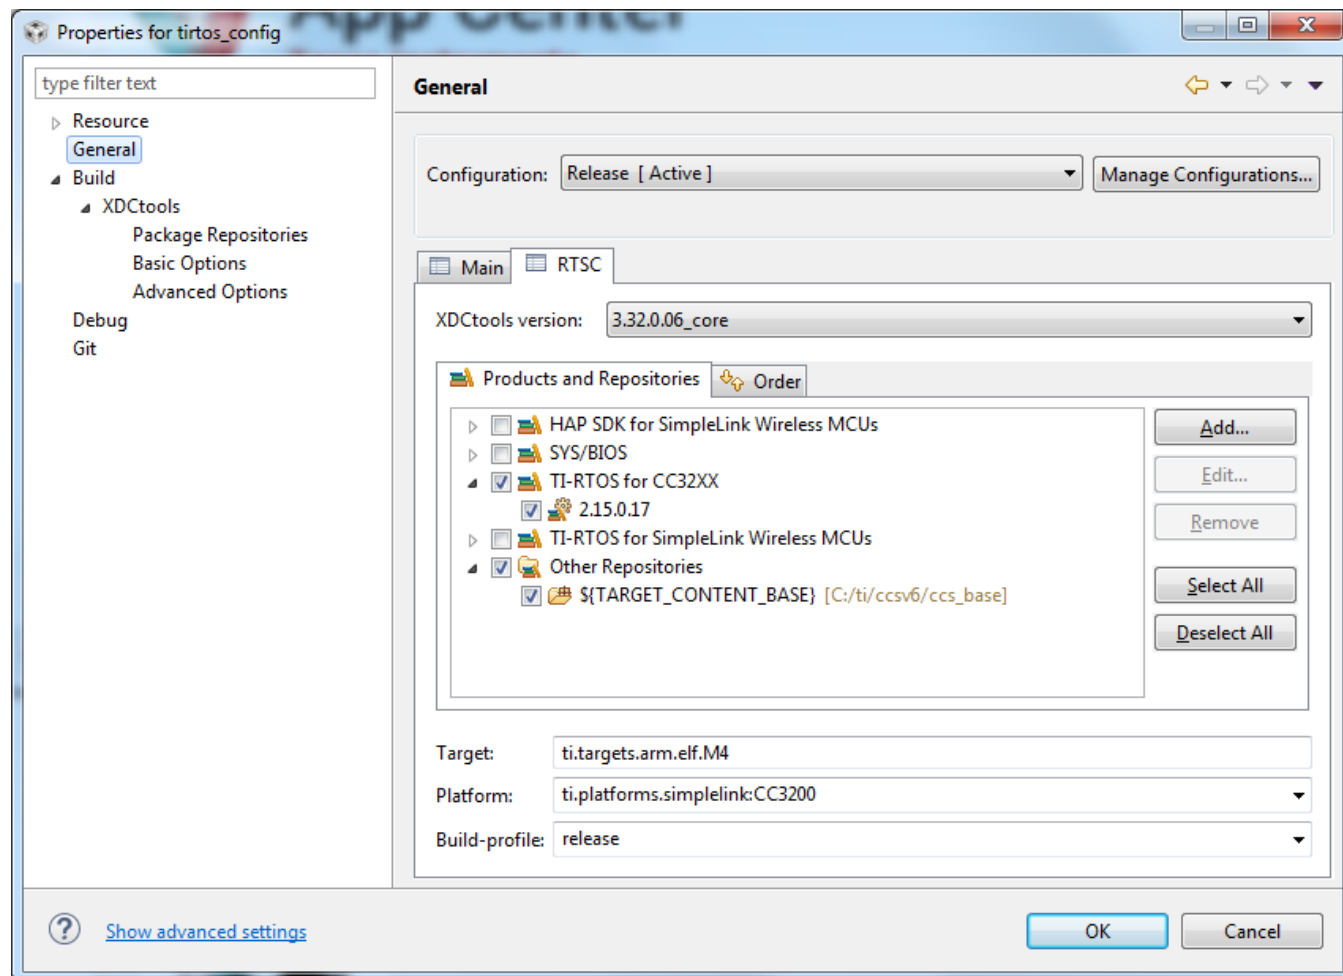

Figure 7. Properties for ti_rtos_config
4. Select the `ti_rtos_config` project in Project Explorer, and select **Project>Properties** from the menu. Under **General**, select the **RTSC** tab as shown in Figure 7. Select the latest versions of XDCtools and TI-RTOS for SimpleLink (not shown in Figure 7). Also verify the platform is selected as `ti.platforms.simplelink:CC3200`.